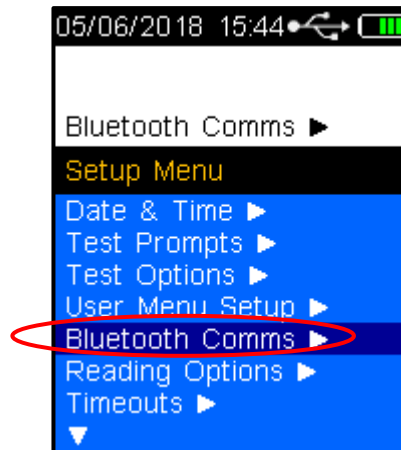

Figure 80 - Bluetooth Comms
- Press the Down button until *Bluetooth Comms* is highlighted (Refer to Figure 80).